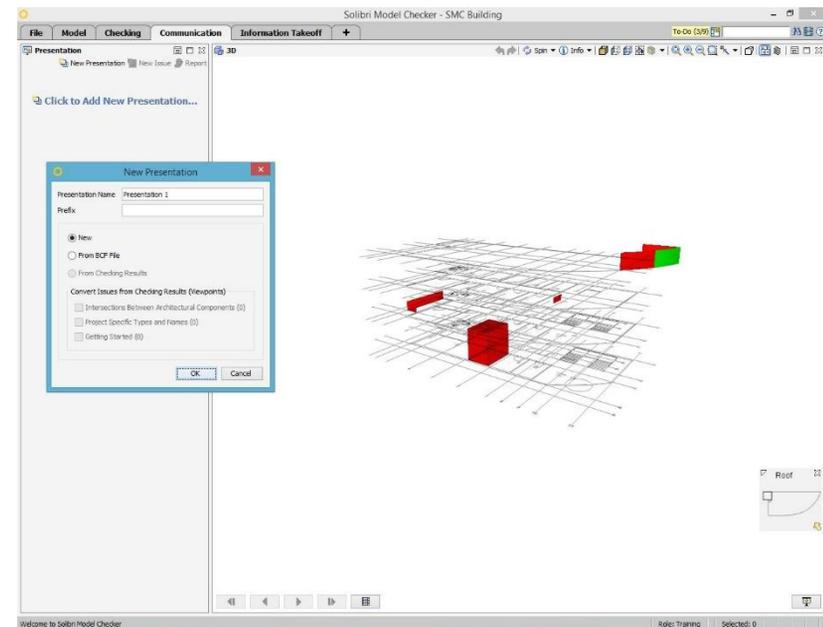

Figure 68 Converting Results to Presentation
- 1) Click the line "*Click to add New Presentation...*" (see Figure 68).